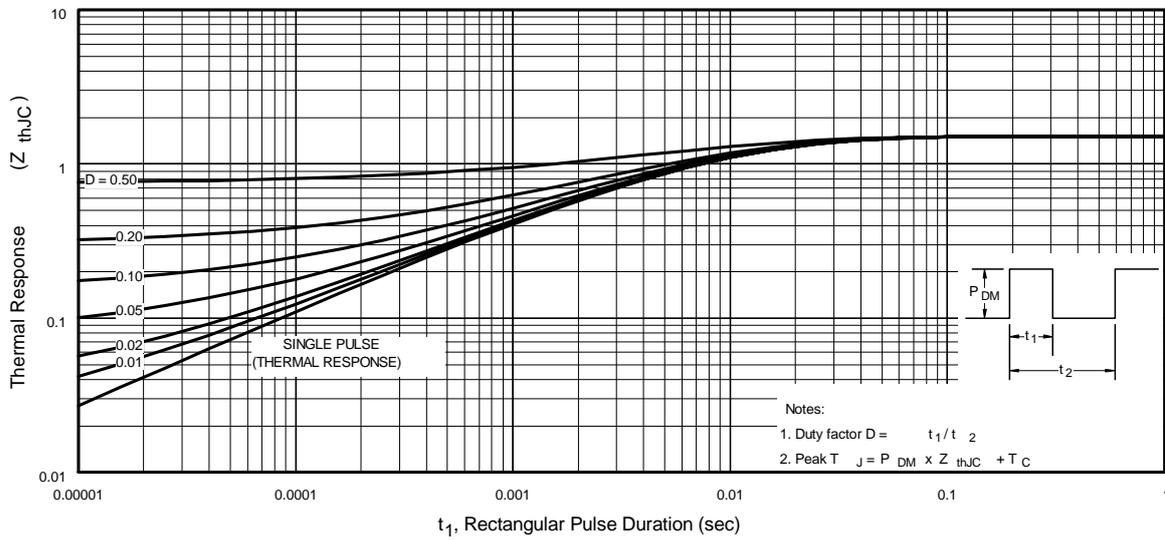

Fig 11. Maximum Effective Transient Thermal Impedance, Junction-to-Case
- ① Repetitive rating; pulse width limited by max. junction temperature. (See fig. 11)
- ② Starting $T_J = 25^\circ\text{C}$, $L = 45mH$